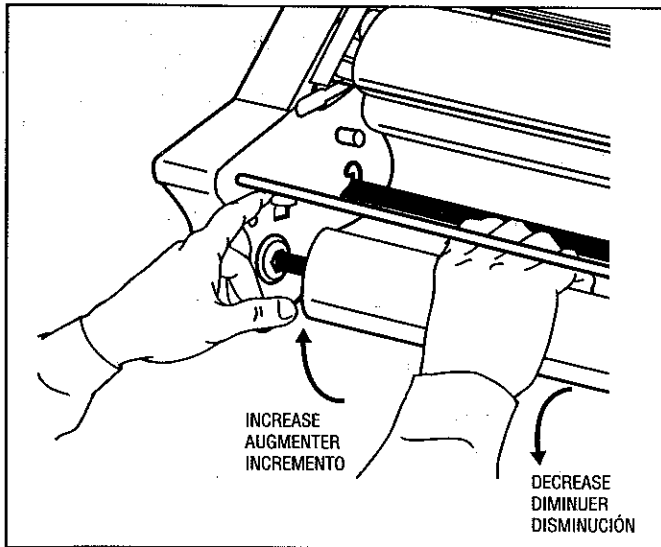

Figure 10
1. To adjust the bottom brake. Push and hold the brake lever, (Figure 10), located on the left side frame by the roll of film. Rotate the roll of film until the lever engages the internal mechanism.
2. Refer to Figure 10 for the proper rotation of the film to increase or decrease the tension.